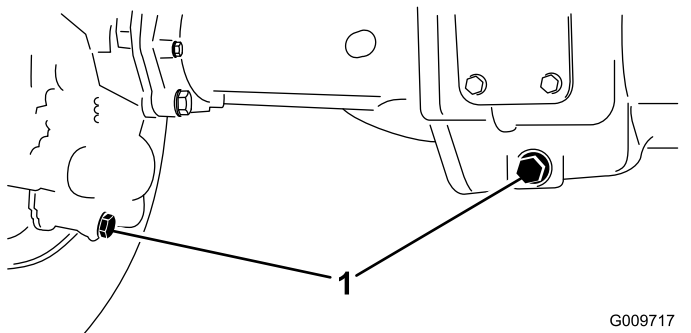

Figure 74
2. Clean the area around the 3 drain plugs—1 on each end and 1 in the center (Figure 74).